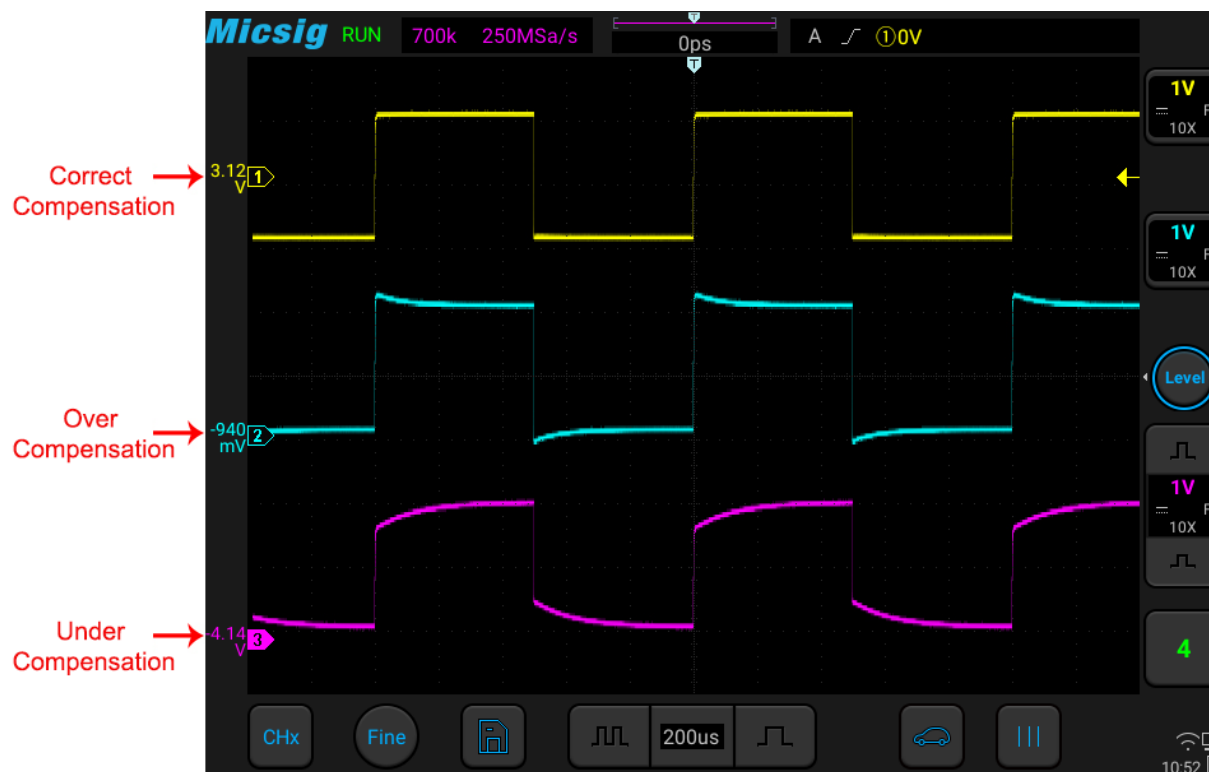

Figure 2-14 Probe Compensation
- 5) Tap  button or manually adjust the waveform vertical sensitivity and horizontal time base. Observe the shape of the waveform, see Figure 2-14.